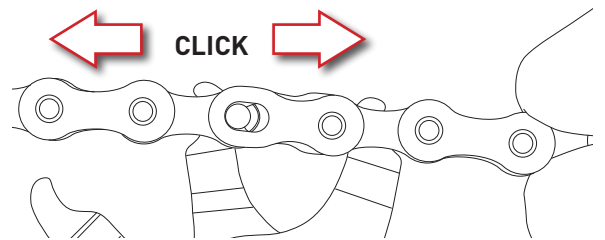

Fig.11
- Press the callipers until you hear a click indicating that the two pins have been positioned in the smaller diameter slot area (Fig. 11).